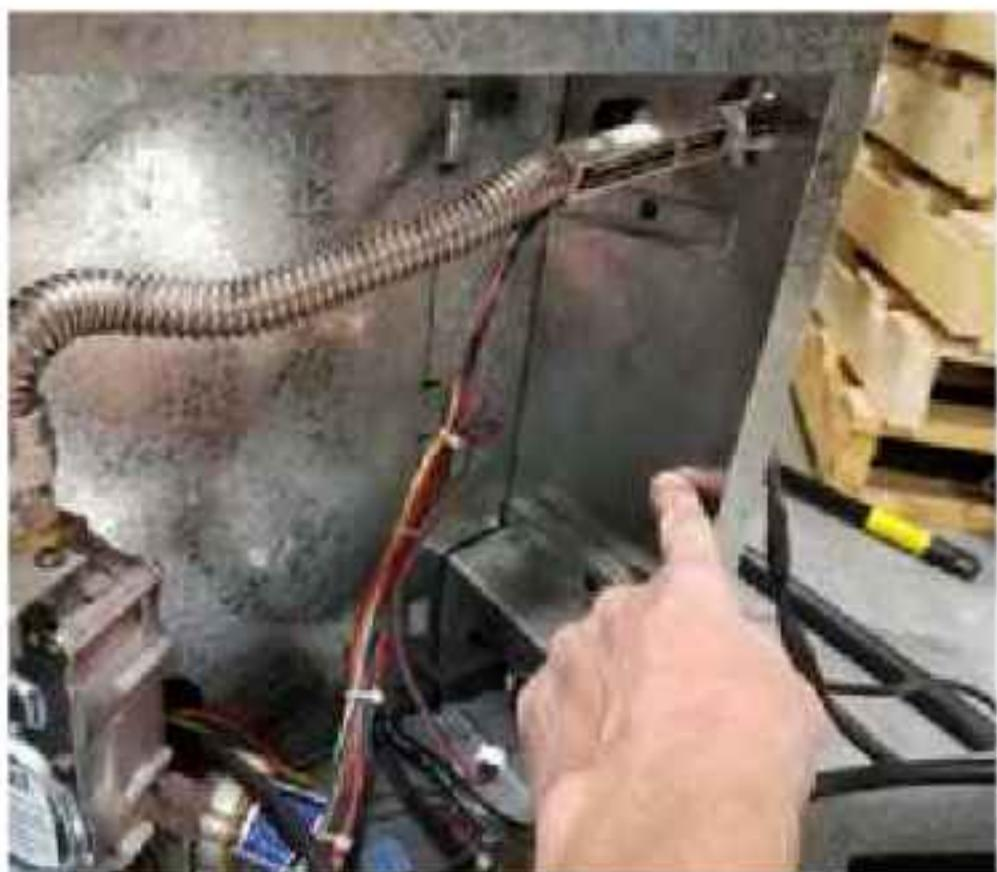

Figure 24a
28. Attach Velcro to underside of PVK box, secure in place and plug PVC into the receptacle that is located under it shown in Figure 24a & 24b.